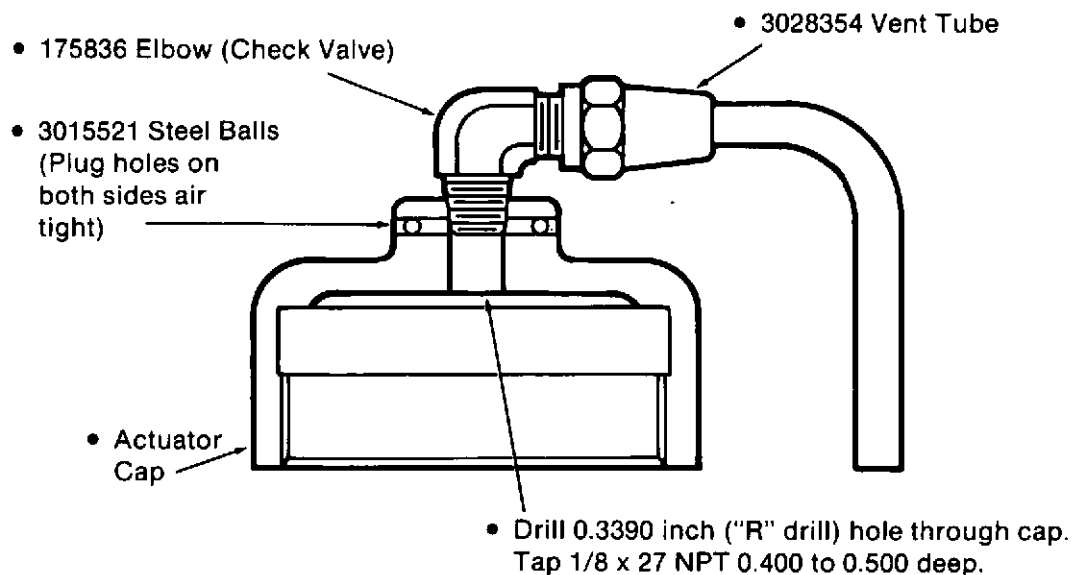

Fig. 4-42. Part No. 3028355 MVT Kit (Actuator Cap)
- d. Use four capscrews and lockwashers to fasten the actuator to the cam follower housing. Tighten the capscrews to 15 to 19 ft.-lbs. [20 to 26 N•m] torque. The solenoid must be in the position shown in Fig. 4-42.
29. Install the Part No. 175836 Check Valve, the Part No. 3028354 Vent Tube and the Part No. 3015521 Steel Balls (2) from the MVT Kit into the actuator cap.
- a. Drill a hole through the center of the actuator cap as shown in Fig. 4-42. Use a 0.339 in. diameter ("R" drill) drill bit to drill the hole. Tap the hole with a 1/8 x 27 NPT tap. Tap the hole to a depth of 0.400 to 0.500 inch [10.2 to 12.7 mm] as measured from the top of the cap.
- b. Enlarge the 1/8 inch diameter lockwire holes that are in the top of the cap to a diameter of 0.1850 inch. Use a No. 13 drill bit to enlarge the holes. Drill from each side of the cap to a minimum depth of 0.1875 inch [4.76 mm] for each hole, Fig. 4-42.
- d. Install one Part No. 3015521 Steel Ball into the enlarged hole on each side of the actuator cap, Fig. 4-42.
- e. Install the Part No. 175836 Check Valve into the actuator cap, Fig. 4-42. Tighten the check valve to 10 in.-lbs. [1.1 N•m] torque. The outlet on the check valve must position so that the vent tube will not be against any part of the engine.
- f. Install the Part No. 3028354 vent tube onto the check valve, Fig. 4-42.